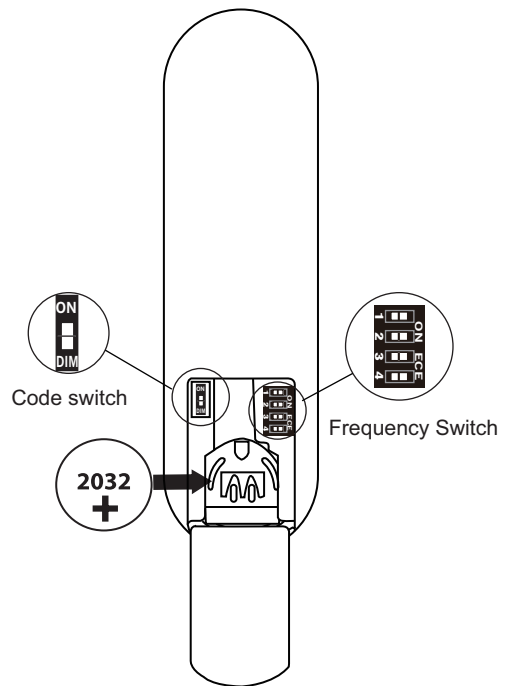

Figure 17
Insert the 3 volt battery (included) and make sure the battery is properly seated with the Positive + sign facing up. (Fig. 17)
The remote control unit has frequency settings that can be changed. The frequency settings on the remote control should only be changed if your fan experiences interference or if a second or more fans with the same type of control system are installed in the same structure. (Fig. 17)
**ON/DIM Switch:** The ON position is to be used for a light kit with CFL bulbs, the DIM position is to be used for all other dimmable style bulbs. (Fig. 17)